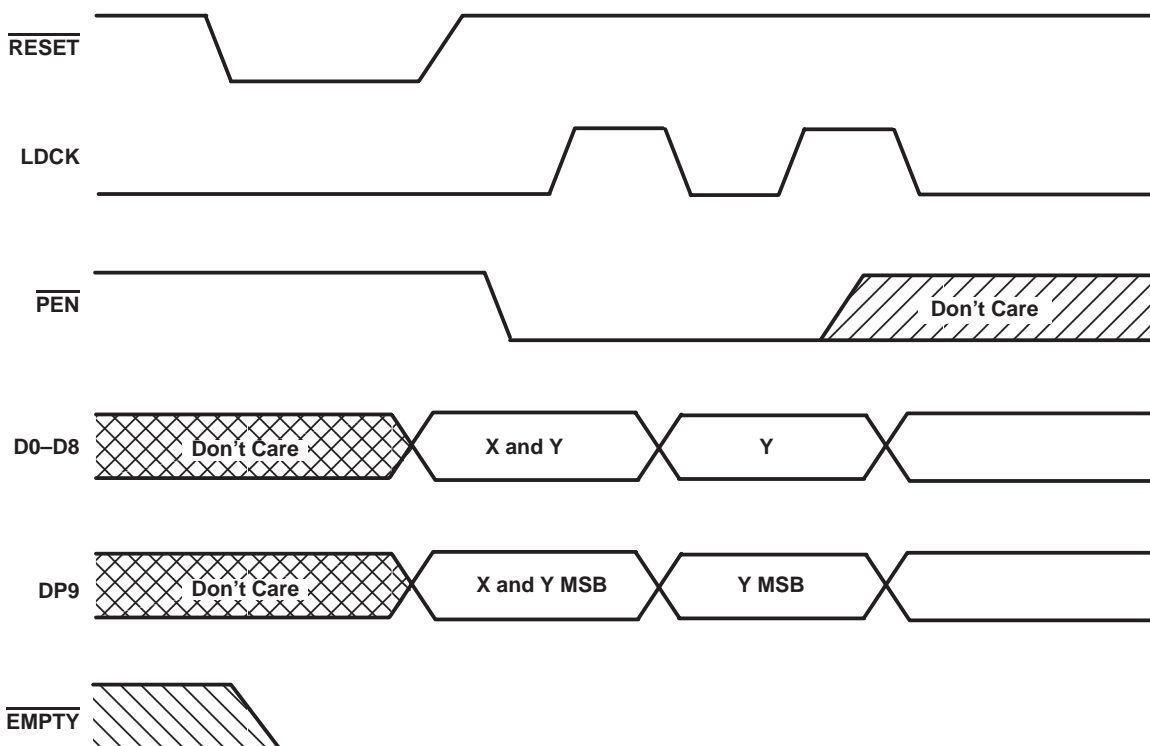

Figure 1. Programming X and Y Separately
To program the offset values, program enable ( $\overline{PEN}$ ) can be brought low after reset only when LDCK is low. On the following low-to-high transition of LDCK, the binary value on D0–D8 and DP9 is stored as the almost-empty offset value (X) and the almost-full offset value (Y). Holding  $\overline{PEN}$  low for another low-to-high transition of LDCK reprograms Y to the binary value on D0–D8 and DP9 at the time of the second LDCK low-to-high transition. Writes to the FIFO memory are disabled while the offsets are programmed. A maximum value of 1023 can be programmed for either X or Y (see Figure 1). To use the default values of  $X = Y = 256$ ,  $\overline{PEN}$  must be held high.
**timing requirements over recommended operating conditions (unless otherwise noted) (see Figures 1 through 3)**